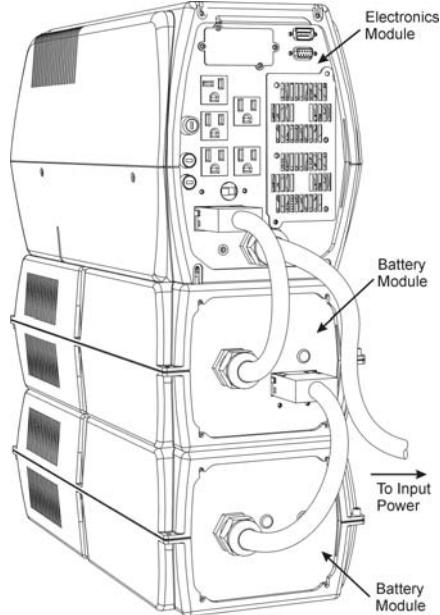

Figure 5
Note: Only one additional battery module may be added to the standard unit. For longer runtime options contact your Toshiba sales representative or the Toshiba marketing department at (800) 231-1412 or by e-mail at toshibaups@tic.toshiba.com. Figure 5 shows the standard unit with one additional battery module added. To install a second battery module follow these steps: